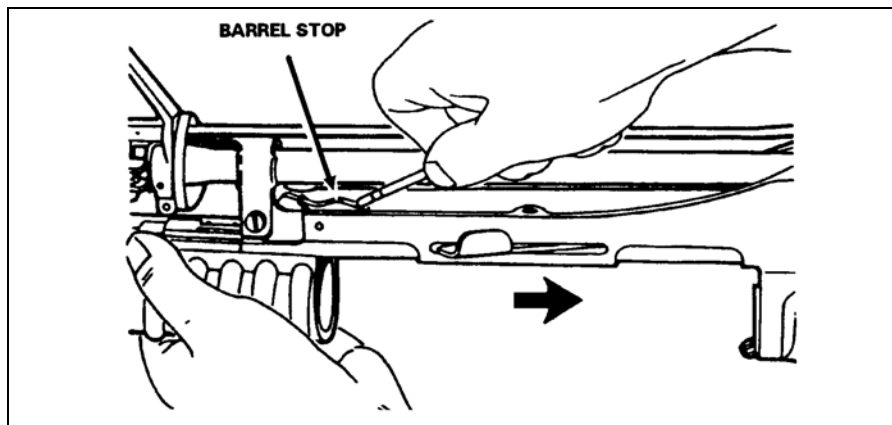

Figure 3-22. Installing the barrel.
- a. Install the barrel by pressing the barrel stop and sliding the barrel into the receiver (Figure 3-22).